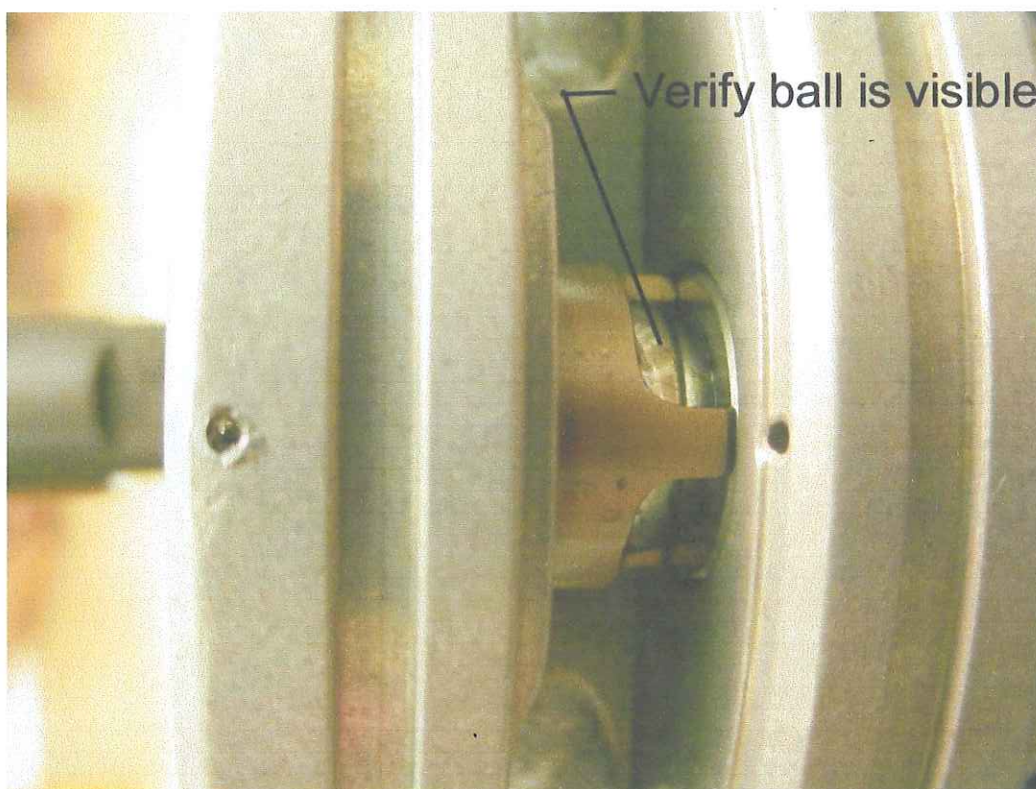

Figure 1
1. After removing pump from the aircraft, verify ball valve is visible as shown in Figure 1.